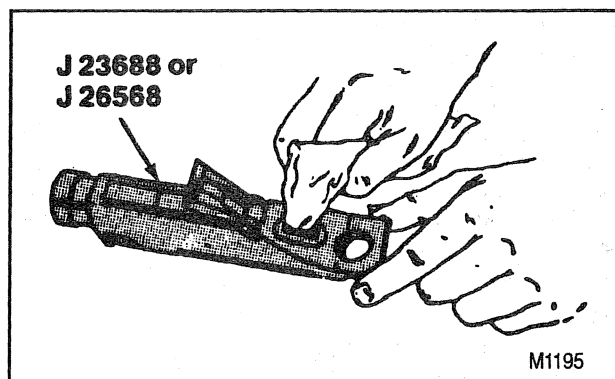

Figure 2—Cleaning the Coolant Tester
- Before each use, swing the plastic cover back at the slanted end of J 26568 or J 23688, exposing the measuring window and the bottom of the plastic cover (figure 2).